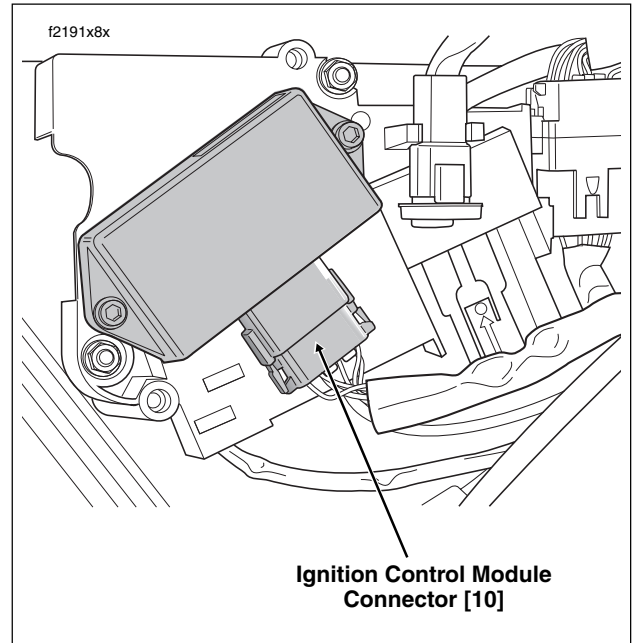

Figure 8-5. Electrical Bracket (Under Right Side Cover)
3. Depress external latches and use a rocking motion to to remove electrical connector. See Figure 8-5.